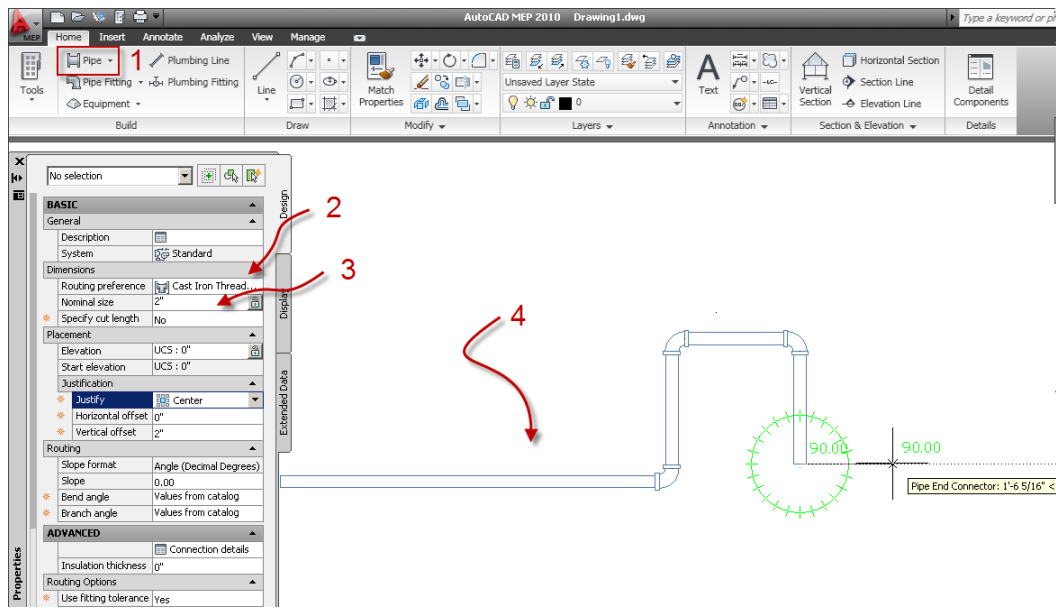

Figure 6.20
19. Set the Nominal size to 2" and then draw a small pipe run on screen. Make a few 90-degree turns to trigger the insertion of fittings (see Figure 6.20).